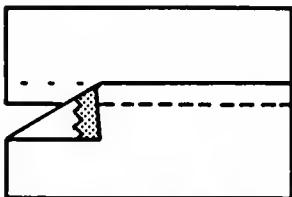

Fig. 96. A lapped seam.
3. Stitch on the right side near the folded edge. The stitching may be on the fold,  $\frac{1}{8}$  to  $\frac{1}{4}$  in. from edge (Fig. 96).